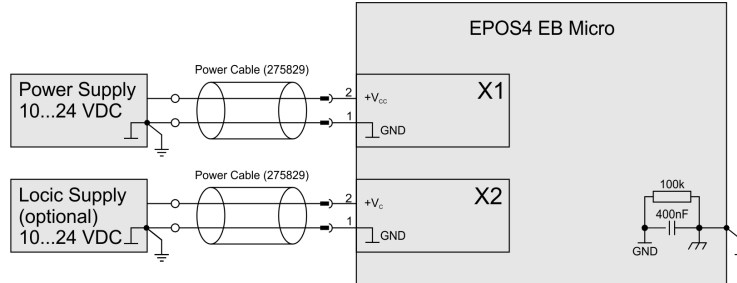

Figure 5-50 Power & logic supply
**Power supply** & optional logic supply ..... Figure 5-50
**Power supply & optional logic supply** ..... Figure 5-50